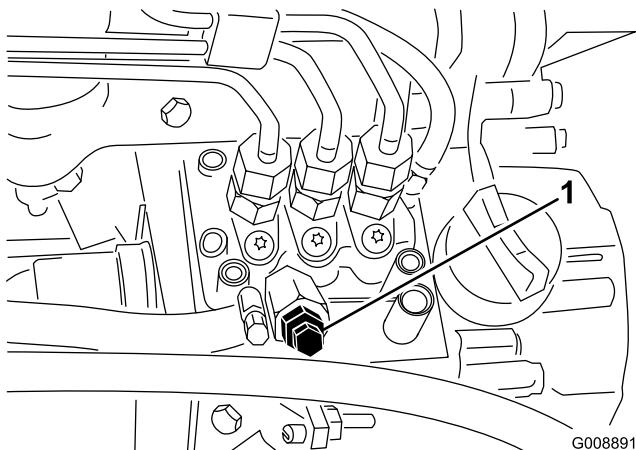

Figure 38
3. Open the air bleed screw on the fuel injection pump (Figure 38).